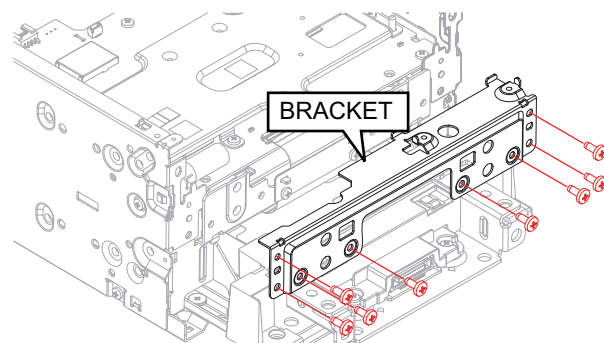

Fig.16
- (11) Remove the 8 screws, and remove the BRACKET. (See Fig.16)